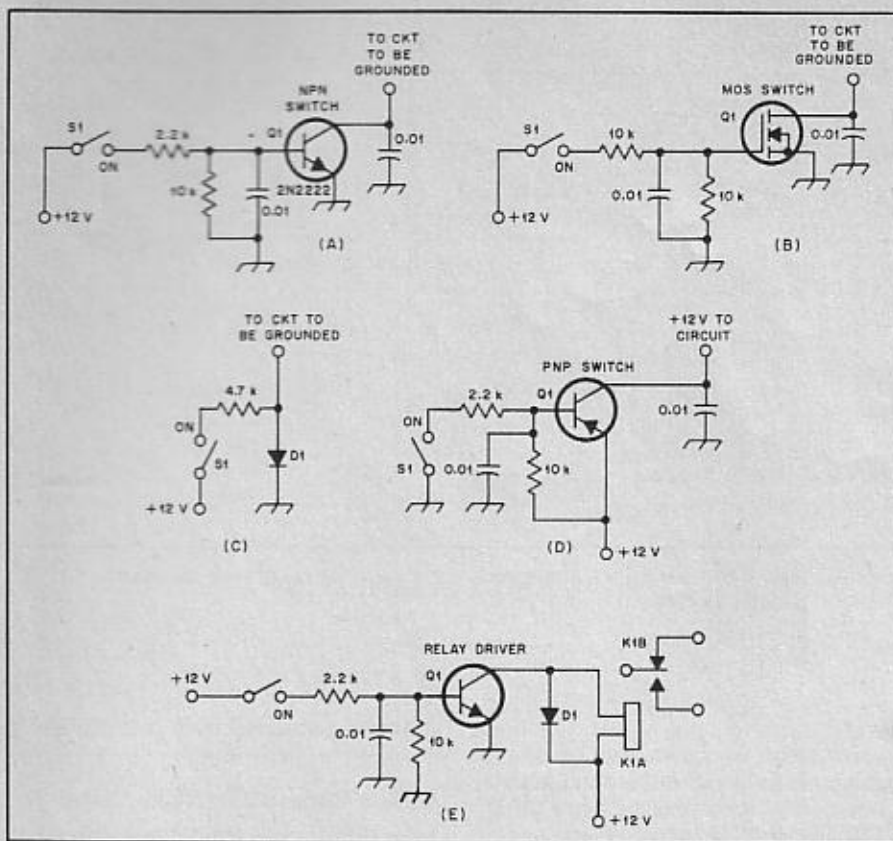

Fig. 4 — Various semiconductor switches (see text).
Our workshop project this month is shown schematically in Fig. 4. It is patterned along the lines of a broadband amplifier designed by Hayward, W7ZOI. His design did not use transformers and there was no high-level stage at the tail end of the amplifier strip, but the feedback networks are similar to his. The particulars of the general design are given in the text of *Solid State Design for the Radio Amateur*, referenced earlier in this article.
Owing to the linearity and bandwidth of the circuit in Fig. 4, it is ideal as a drop-in
Fig. 4 — A practical circuit for a broadband linear-amplifier strip. This can be used as an instrument amplifier, a low-level RF strip in a transmitter or as part of a receiving-loop preamplifier. Resistors are  $\frac{1}{4}$ -W carbon-composition unless otherwise noted. The polarized capacitor is tantalum or electrolytic. All others are chip-style or disc-ceramic with short leads. T1 and T2 contain 15 primary turns of no. 28 enameled wire on an Amidon FT37-43 toroid core. The secondary windings consist of seven turns of no. 28 enameled wire. T3 uses an Amidon FT50-43 toroid core with 12 primary turns of no. 26 enameled wire. The secondary of T3 contains six turns of no. 26 wire.
Fig. 5 — Circuit-board etching pattern for the broadband amplifier of Fig. 4. The pattern is shown full size from the foil side of the board. Black areas represent unetched copper foil.
This amplifier can be used also as a preamplifier for loop antennas. A step attenuator can be inserted at the output of the amplifier to control the gain. If you choose to use this circuit in such a manner, a low-noise preamplifier should precede Q1 of Fig. 4. I find that a JFET stage is suitable for this purpose. Owing to the small signal that a receiving loop provides, the preamplifier (even at 1.8 MHz) must be a low-noise type. If not, you will enjoy listening to "pop-corn" noise along with the DX signals! Q1 does not have a low enough noise figure for satisfactory weak-signal reception.
A broadband amplifier can be built for Class A, B or C service, just as narrow-band amplifiers can. The advantage of broadband designs is, in retrospect, to obtain a wide frequency response with relatively flat gain. This helps us to design circuits that do not require band-switching provisions. In other words, it simplifies the design of a multiband transmitter. But, as an instrumentation amplifier, the circuit of Fig. 4 has a great many advantages around the workshop. Good luck with your project.
Fig. 4 contains a number of examples that show how we may use various semiconductor devices as shunt switches. S1 in each case represents a mechanical switch or CW key that turns on the electronic switch. As we learned earlier, turn-on can be effected also by other electronic switches in the overall circuit. For example, AGC voltage or rectified speech energy could be used to actuate a semiconductor switch, depending on the application for the switch; the possibilities are virtually without limit.
Circuit A of Fig. 4 is an NPN transistor switch. A positive voltage is required at the base of Q1 in order to turn it on. The 10-k $\Omega$  resistor from the base to ground is used to minimize transistor leakage current when the switch is in the OFF mode. This circuit might be used to key a driver stage in a solid-state CW transmitter. If so, the collector of Q1 would be hooked to the emitter of the keyed stage. S1 would be the CW key, or the keying line from a keyer.
A simple diode switch is shown at C of Fig. 4. To the right is a PNP transistor switch (D). The base must be grounded through the 2.2-k $\Omega$  resistor to cause turn-on. A 10-k $\Omega$  resistor is connected from base to the +12-V line to help cut off the transistor in the OFF mode. This resistor can be eliminated in the circuits of Fig. 4A, 4D and 4E if two 1N914 diodes are connected in series with the emitter leads. The diode junctions will reverse bias the transistors by approximately 1.4 V. The resistor or biasing diodes are especially important in the circuit of Fig. 4E — a relay driver. Without reverse bias, the relay may remain energized after the transistor is turned off. This is because a small amount of leakage or idling current will remain, and it may